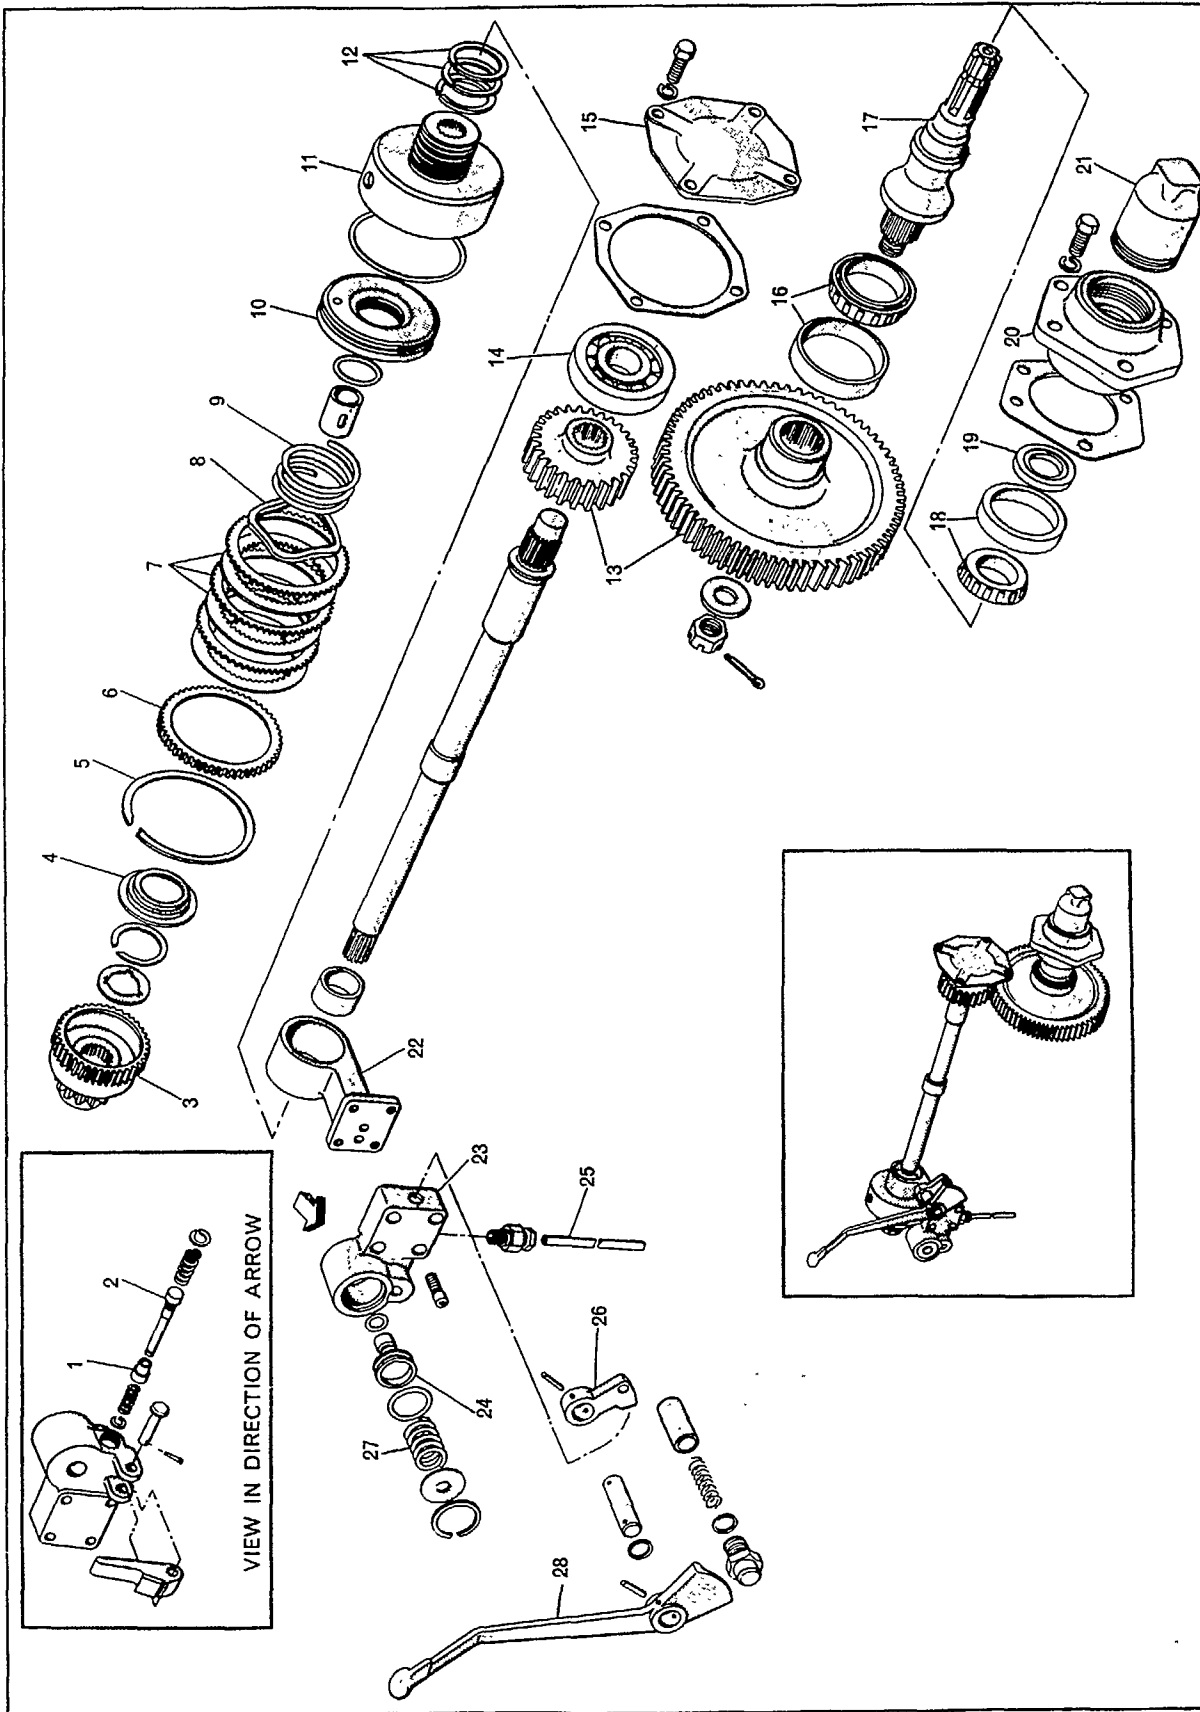

Figure 22
1. Remove the four allen screws retaining the valve support to the valve housing, Figure 22. Separate the support and clutch pack assembly from the valve housing.
4. Remove the pressure control valve spring retaining snap ring and remove the spring and pressure control valve, Figure 22.